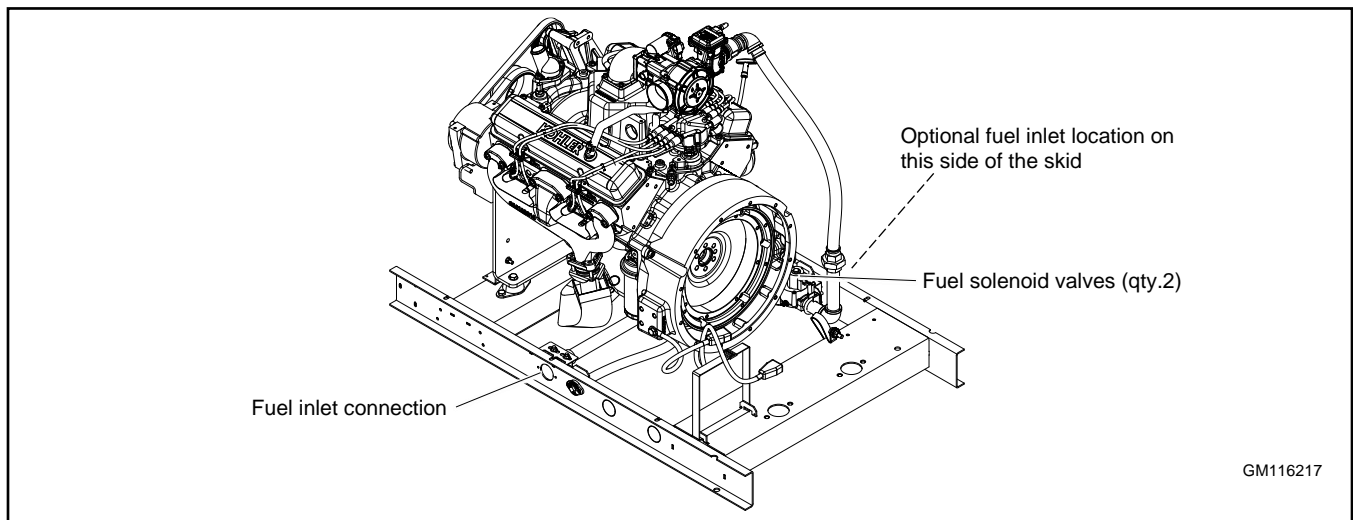

Figure 21 Fuel Supply Connection Location (generator set enclosure not shown)
- b. Use a section of flexible fuel line to connect the fuel supply to the 1 in. NPT fuel inlet connection on the generator set. See Figure 21 or the dimension drawing for the fuel inlet connection location. Do not bend the flexible fuel line to make up for misalignment of the fuel supply line and the generator set fuel inlet.